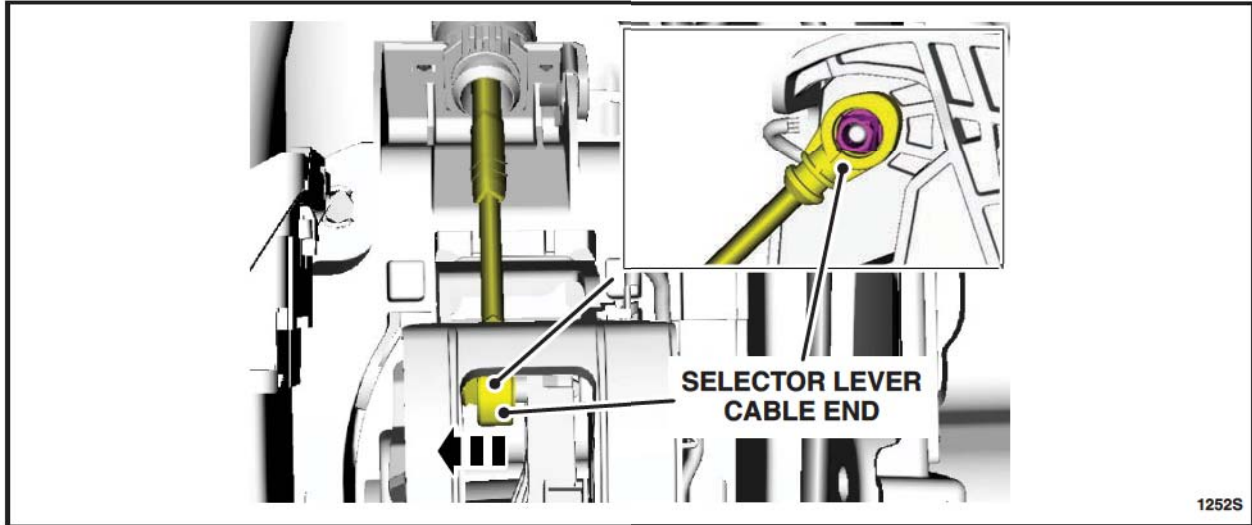

FIGURE 14
22. Disconnect the selector lever cable end from the selector lever. See Figure 14.
10. Connect the selector lever cable end from the selector lever. See Figure 14.